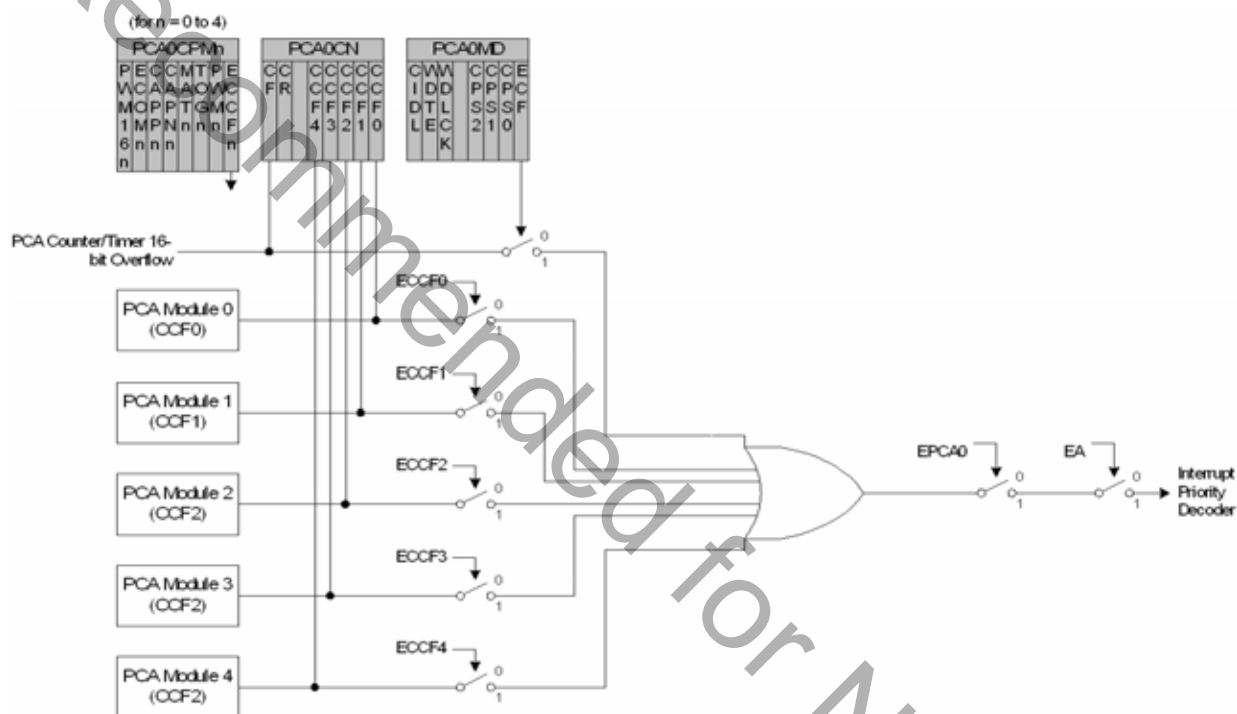

Figure 26.3. PCA Interrupt Block Diagram
Figure 26.3 shows a diagram of the PCA interrupt tree. There are six independent event flags that can be used to generate a PCA0 interrupt. They are: the main PCA counter overflow flag (CF), which is set upon a 16-bit overflow of the PCA0 counter and the individual flags for each PCA channel (CCF0, CCF1, CCF2, CCF3, and CCF4), which are set according to the operation mode of that module. These event flags are always set when the trigger condition occurs. Each of these flags can be individually selected to generate a PCA0 interrupt, using the corresponding interrupt enable flag (ECF for CF, and ECCFN for each CCFn). PCA0 interrupts must be globally enabled before any individual interrupt sources are recognized by the processor. PCA0 interrupts are globally enabled by setting the EA bit and the EPCA0 bit to logic 1.